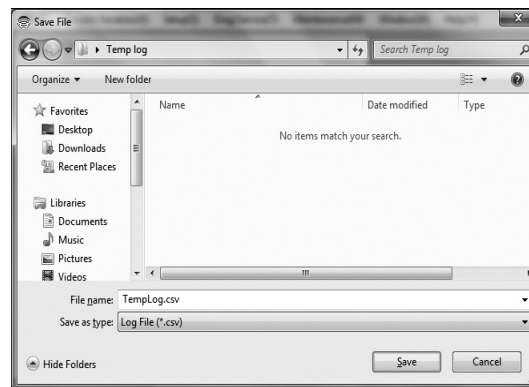

Fig.161
- ⑥ Click the "OK" button again to display the most recent log entry.
- ⑦ It is also possible to save a log to a file here. Click the "Save" button to display Fig. 161, specify the save location and file name, and then click "OK" to create a CSV file, completing the save process.